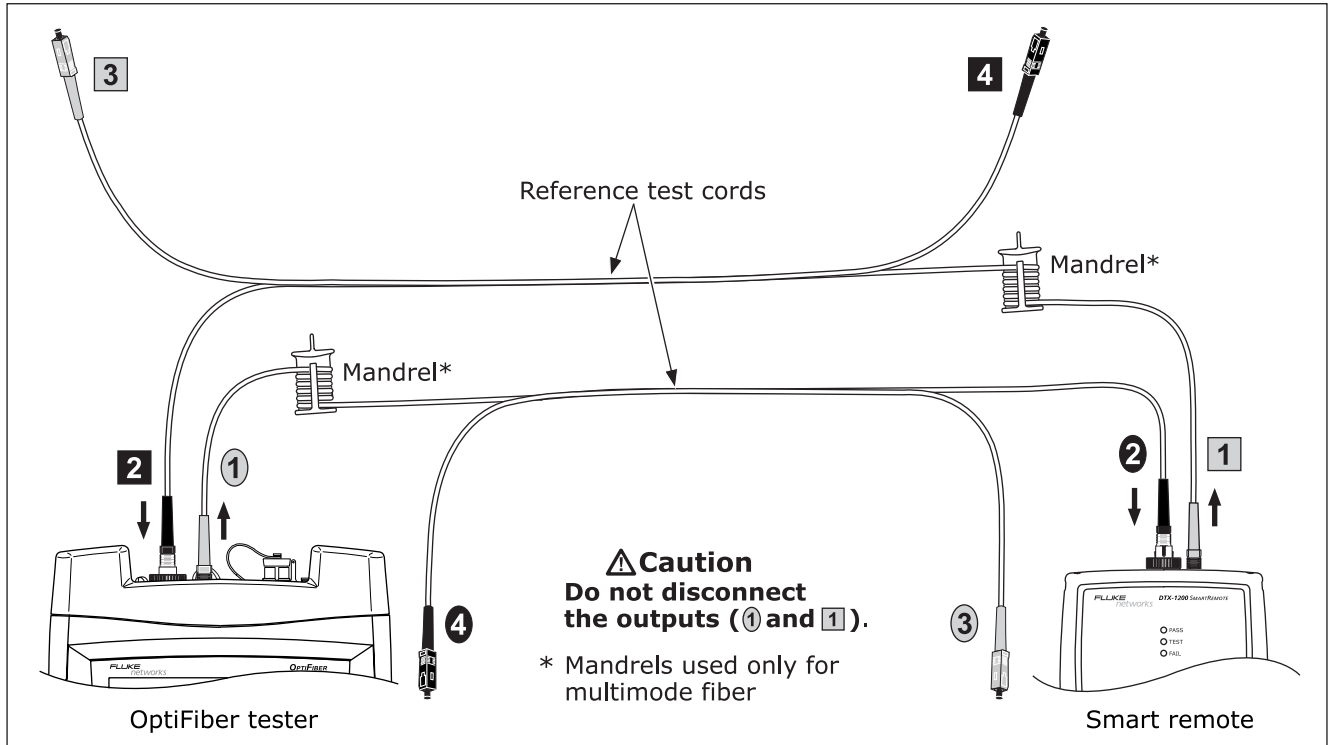

Figure 25. Smart Remote Mode Reference Connections
- At the beginning of each day using the remote end setup (Figures 25 through 32) you will use that day. The tester reminds you to set the reference if the reference is more than 12 hours old.
Figure 23 shows how to wrap the fiber around a mandrel. Place mandrels on the tester's output fibers, as shown in Figures 25 through 32.
- 8 Connect the reference test cords as shown on the screen and in Figure 25; then press .